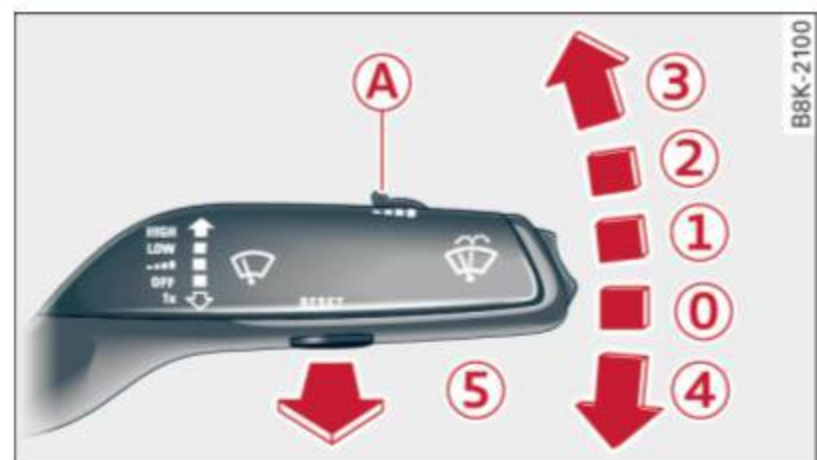

Fig. 52 Windshield wiper lever
- ▶ Switch the ignition off and move the windshield wiper lever to position ④ ⇒ page 53, fig. 52. The windshield wipers move into the service position.
- ▶ Switch the windshield wipers off (position ① ⇒ page 53, fig. 52).